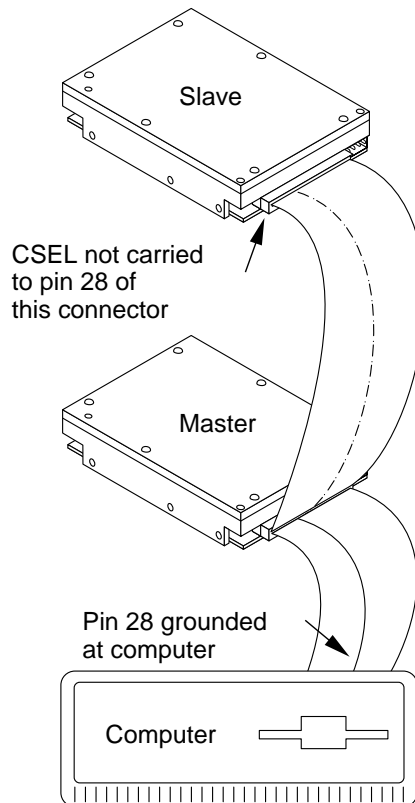

Figure 4. Connecting cable-selected drives
- You must use an interface ribbon cable built to support master and slave selection. The cable and its connectors must connect the CSEL signal line to pin 28 of the master drive, but not to the slave drive (see Figure 4). That is, the drive that is plugged into the I/O connector connecting the CSEL signal line to pin 28 is the master. The drive plugged into the I/O connector, whose pin 28 is open, is the slave. Pin 28 of its cable connector is not connected to the CSEL line.